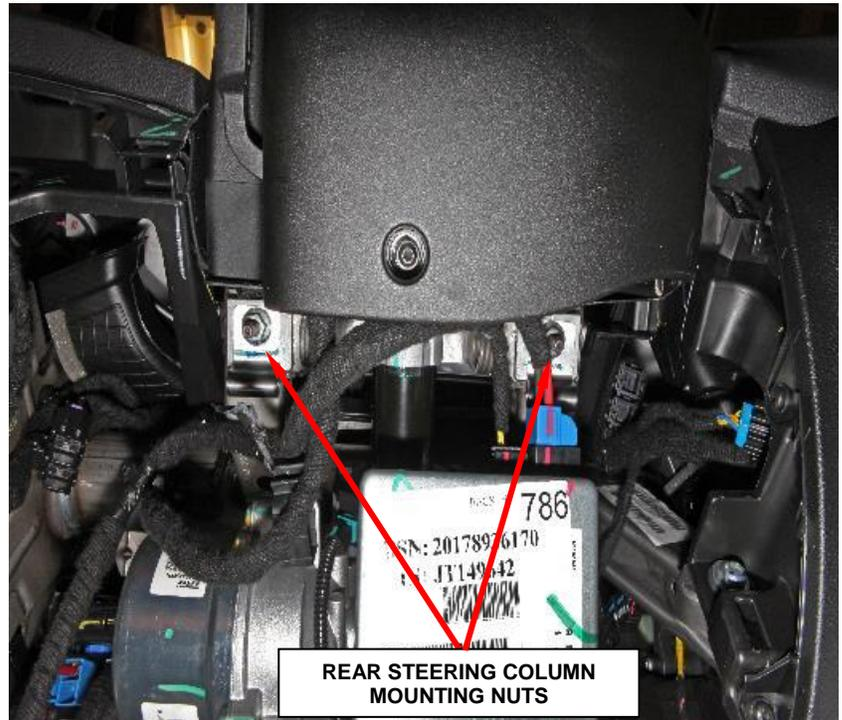

Figure 23 – Steering Column Mounting Bolts
60. Remove and save the two rear steering column nuts, and lower the steering column in the vehicle (Figure 23).